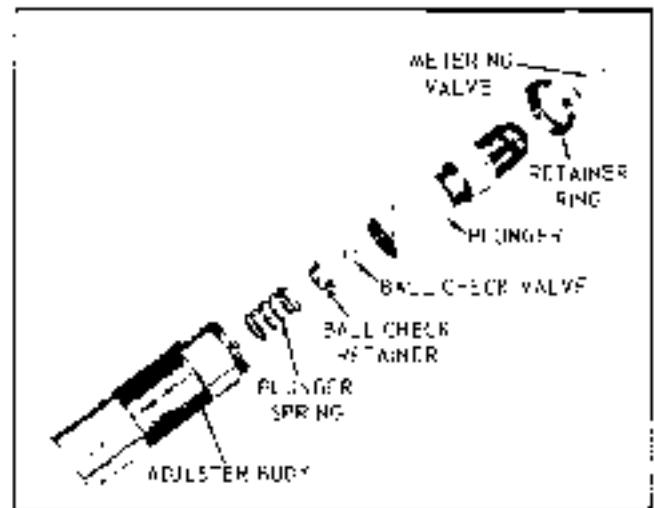

Fig. 6-20. Lash Adjuster—Exploded View
2. Fill the vent hole adjacent to the filler with engine oil (see Fig. 6-20).
LASH ADJUSTER—DISASSEMBLE (Fig. 6-20)
LASH ADJUSTER—ASSEMBLE (Fig. 6-20)
Figure 6-20 shows the relative position of component parts of lash adjusters. The recommended procedure for assembly is given in the following steps.